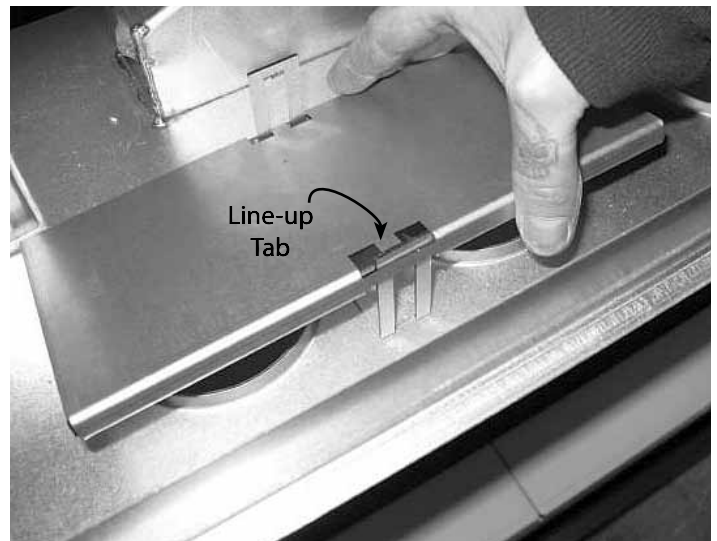

Figure 15 - Relief Door Showing Line-up Tab
- d. Drop the rear of each relief door down onto its slotted retainer and allow the rear line-up tab to engage the rear retainer slot. See *Figure 15*.